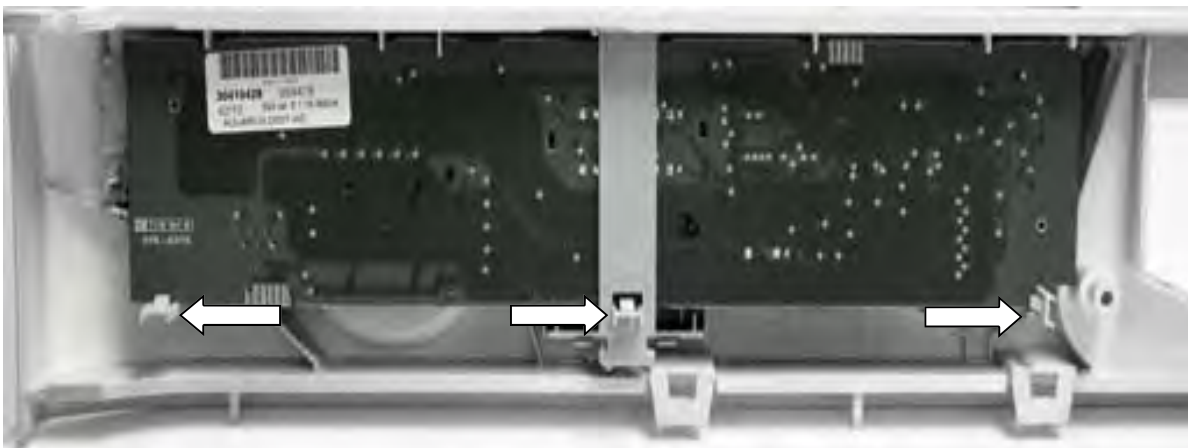

Fig. 5-2
- Next, release the three Program Board locking tabs and removed Program Board from the Control Panel (Fig. 5-2).